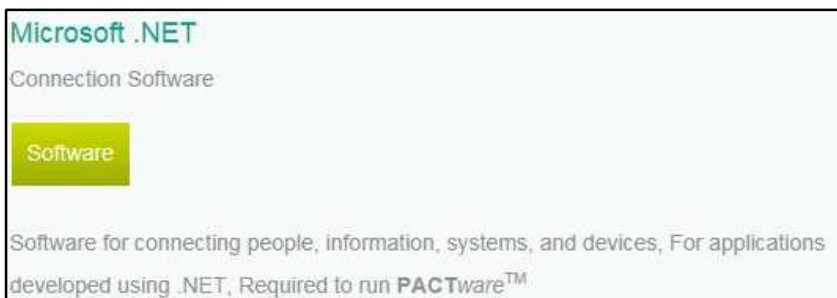

Figure 4: Downloading Microsoft .Net
- The **PACTware** FDT container is required for **Unicom com units (LB/FB8X09) and type LB/FB8X05 com units**. The PACTware installation file can be downloaded from [www.pepperl-fuchs.com](http://www.pepperl-fuchs.com). Search for the term "pactware" using the search field according to the procedure described in chapter 2.1. The current version can then be downloaded by clicking on the green "Download" button (see Fig. 4).